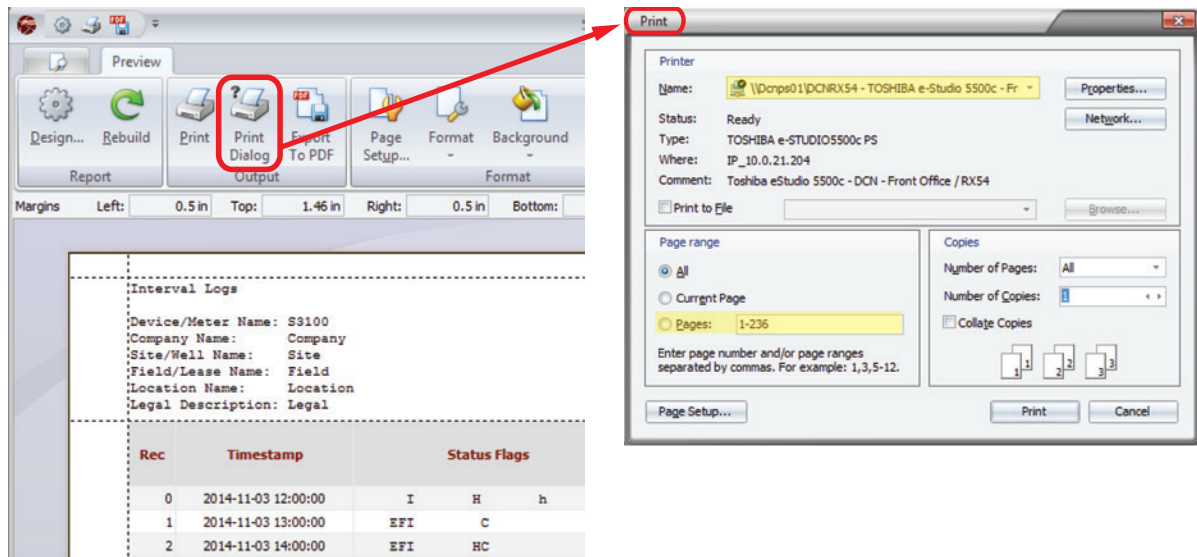

Figure 4.5—Print Dialog window
1. Click the **Print Dialog** button in the top left corner of the *Print Preview* screen (Figure 4.5).